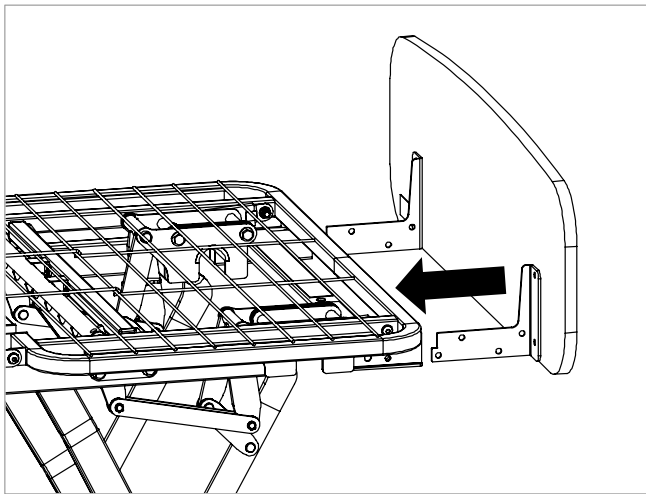

Figure 8.7
13. Locate the mounting brackets into the channel sections on either side of the foot end of the bed; slide the footboard and brackets all the way into the channels as Figure 8.7.